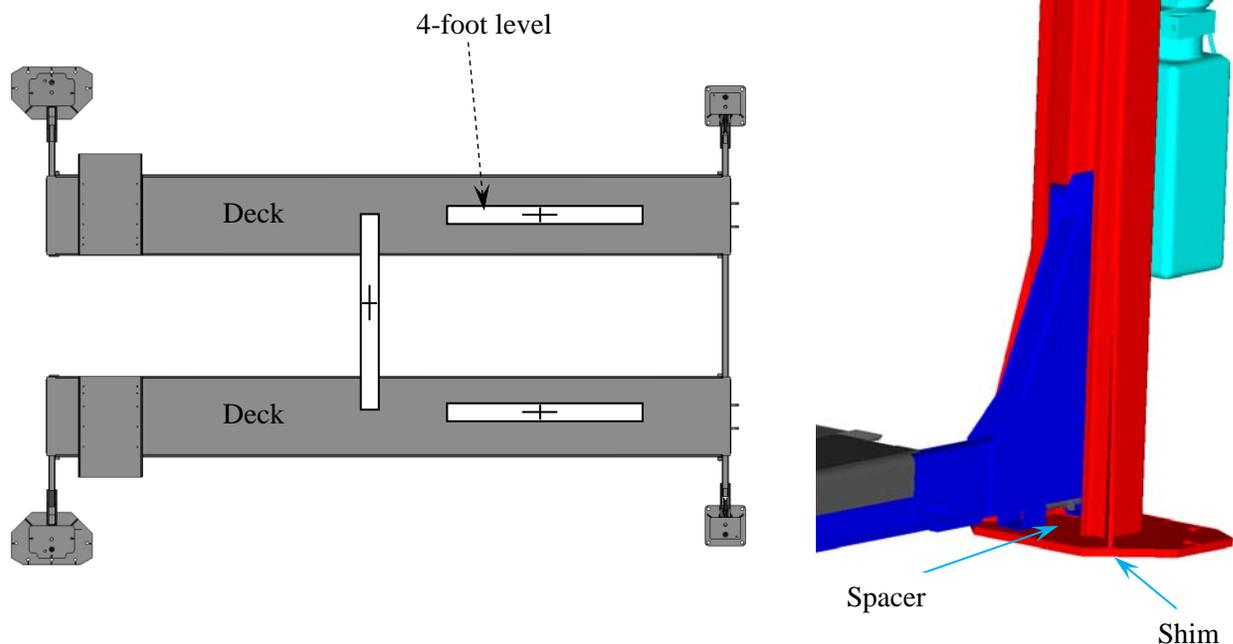

Figure 1
2. Use a 4-foot level to check the level of the lift as shown in Figure 1.
3. Use a 4-foot level to check the level of the lift as shown in Figure 1.